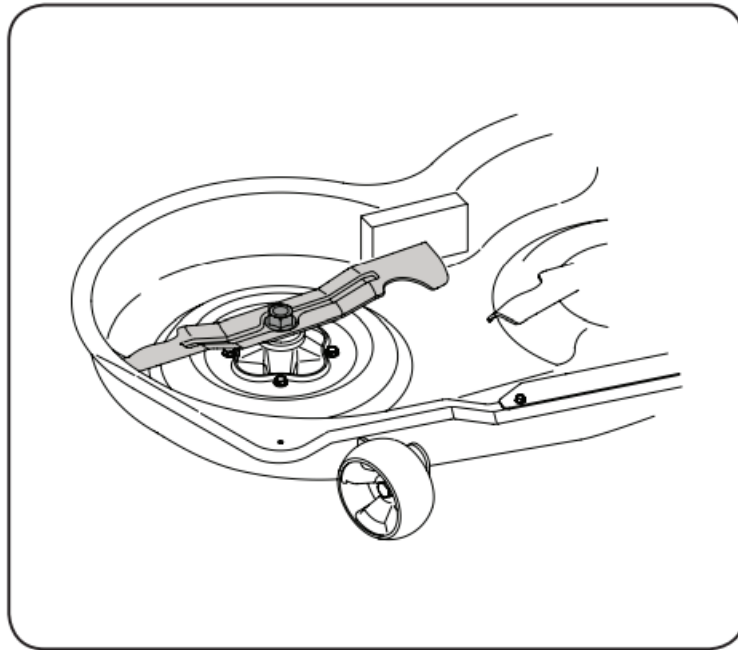

Figure 7-2
1. Place a block of wood between the center deck housing baffle and the cutting blade to act as a stabilizer. See Fig. 7-2.